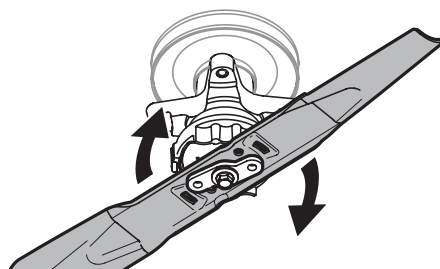

Figure 49
5. Rotate the blade clockwise to align with the blade adapter. See Figure 49.